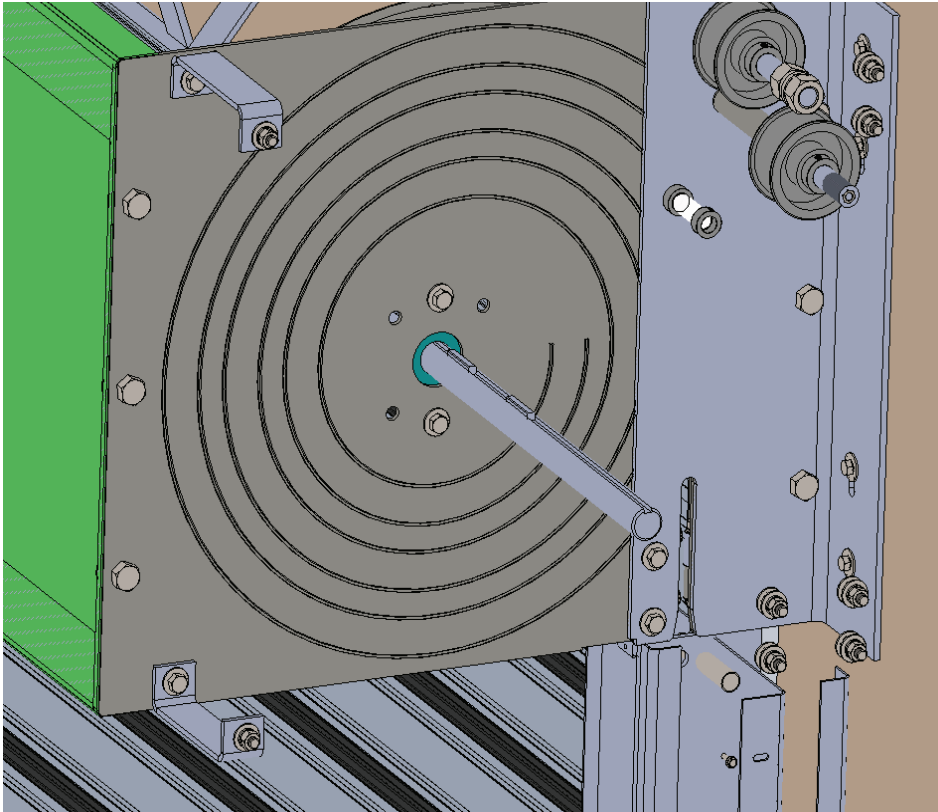
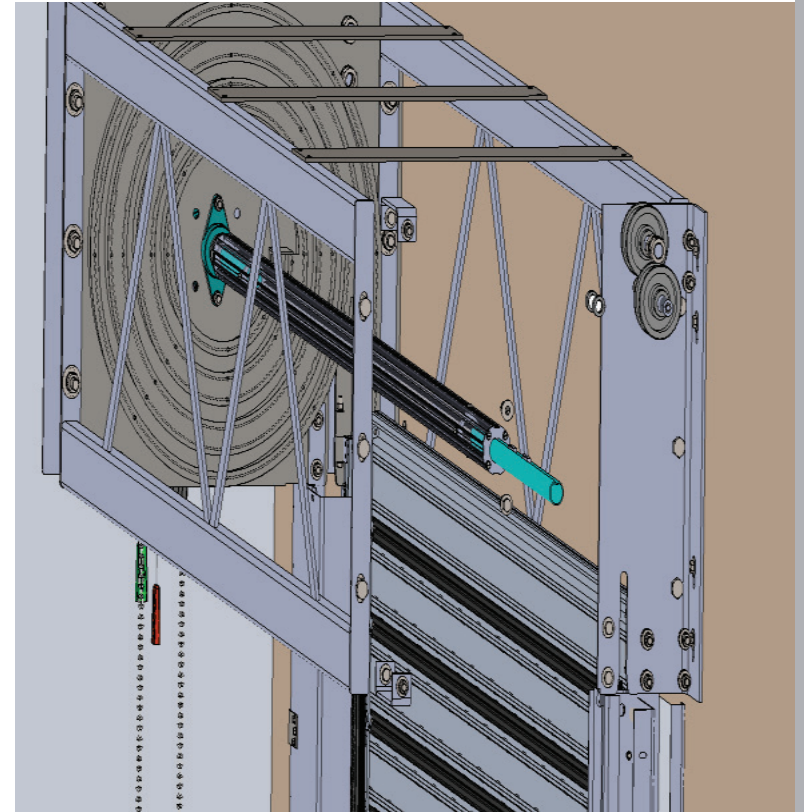

FIG 5.0
FIG 5.1
5. Remove set screws from spools and remove from shaft, as shown in **FIG 5.0**. Repeat for other side. Place a lifting device under header assembly to temporarily support the header assembly. Remove the bolts holding the headplate to the header support. Remove the bearings from both sides. Remove headplate and discard, as shown in **FIG 5.1**.